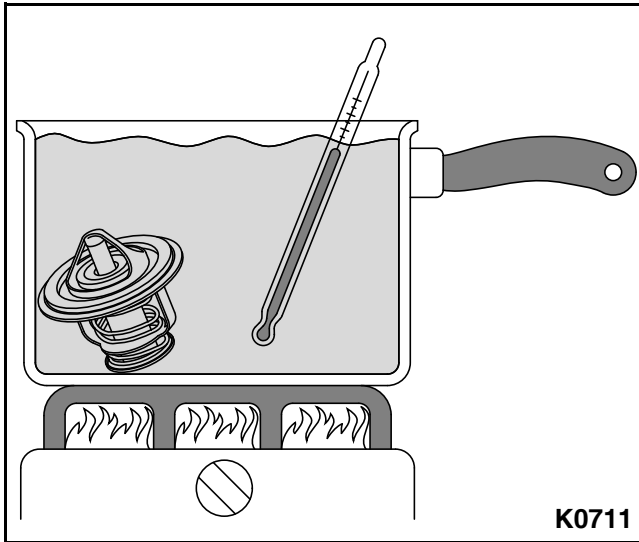

Figure 3-11: Testing Thermostat
1. Place thermostat in a pot of water along with a thermometer. **See Figure 3-11.**